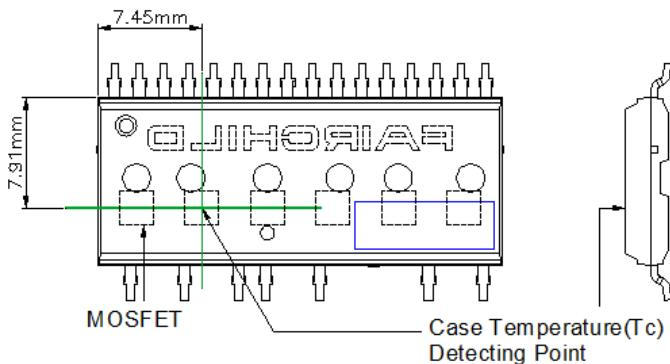

Figure 4. Case Temperature Measurement
1. For the measurement point of case temperature T_C , please refer to Figure 4.